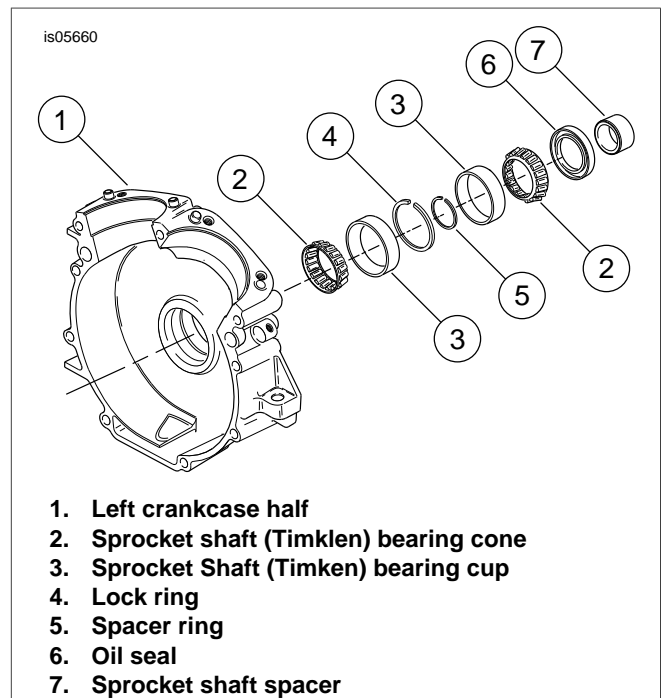

Figure 12. Left Side Crankcase Assembly
1. See Figure 12. Obtain new Timken bearing set (2, 3) and discard lock ring (4).